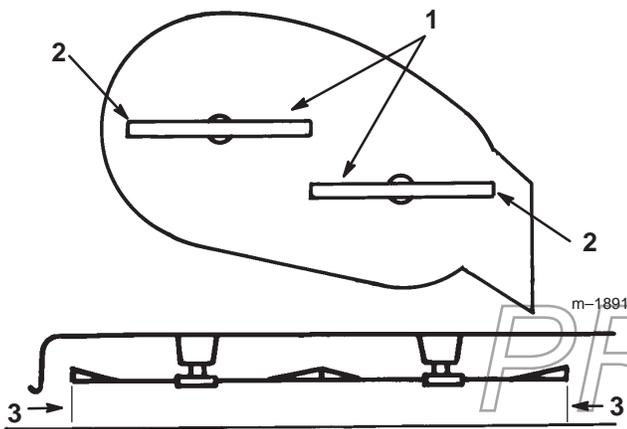

Figure 47
4. Carefully rotate blade(s) side to side (Fig. 47). Measure between the outside cutting edges and the flat surface (Fig. 47). If both measurements are not within 3/16” (5 mm), an adjustment is required; refer to steps 5 and 6.